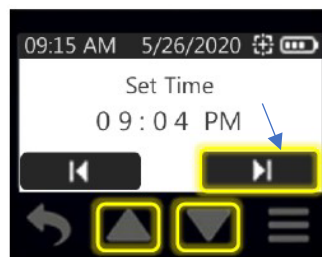

Figure 50. Left/Right and Up/Down Buttons
4. Hour digits will flash. Toggle the up or down arrow buttons to increase/decrease hours. Touch the right arrow to advance to minutes (will flash) and up/down arrow buttons to toggle AM/PM (Figure 50).